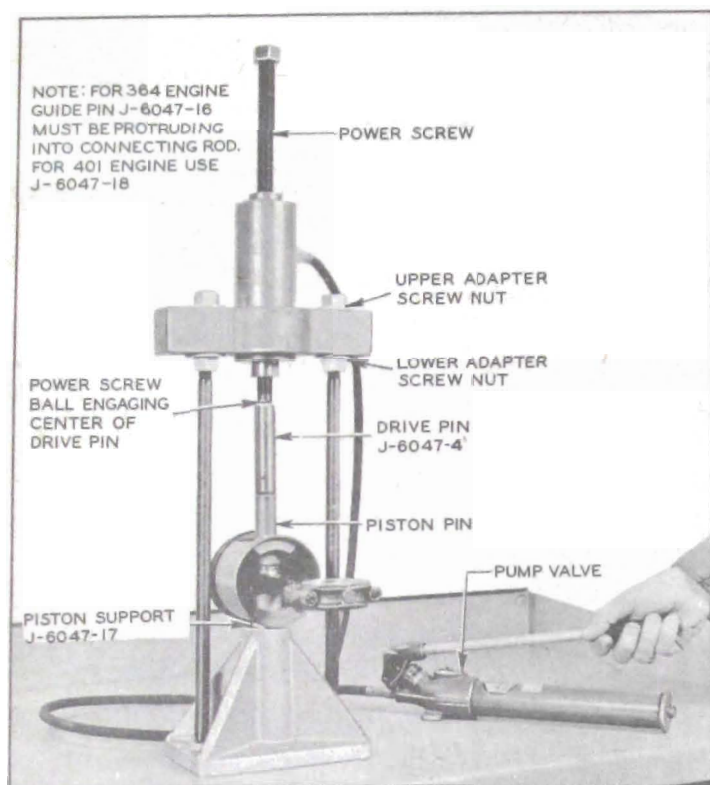

Figure 2-35—Installing Piston Pin
1. To assemble piston, pin, and rod, first place piston support J-6047-16 (for 364 engine) or J-6047-18 (for 401 engine) in base plate of press. Use the piston support with the full radial face upward. See figure 2-35.
3. Place small end of Drive Pin J-6047-4 in hold in upper (protruding) end of piston pin and position the assembly in the press. See figure 2-35.